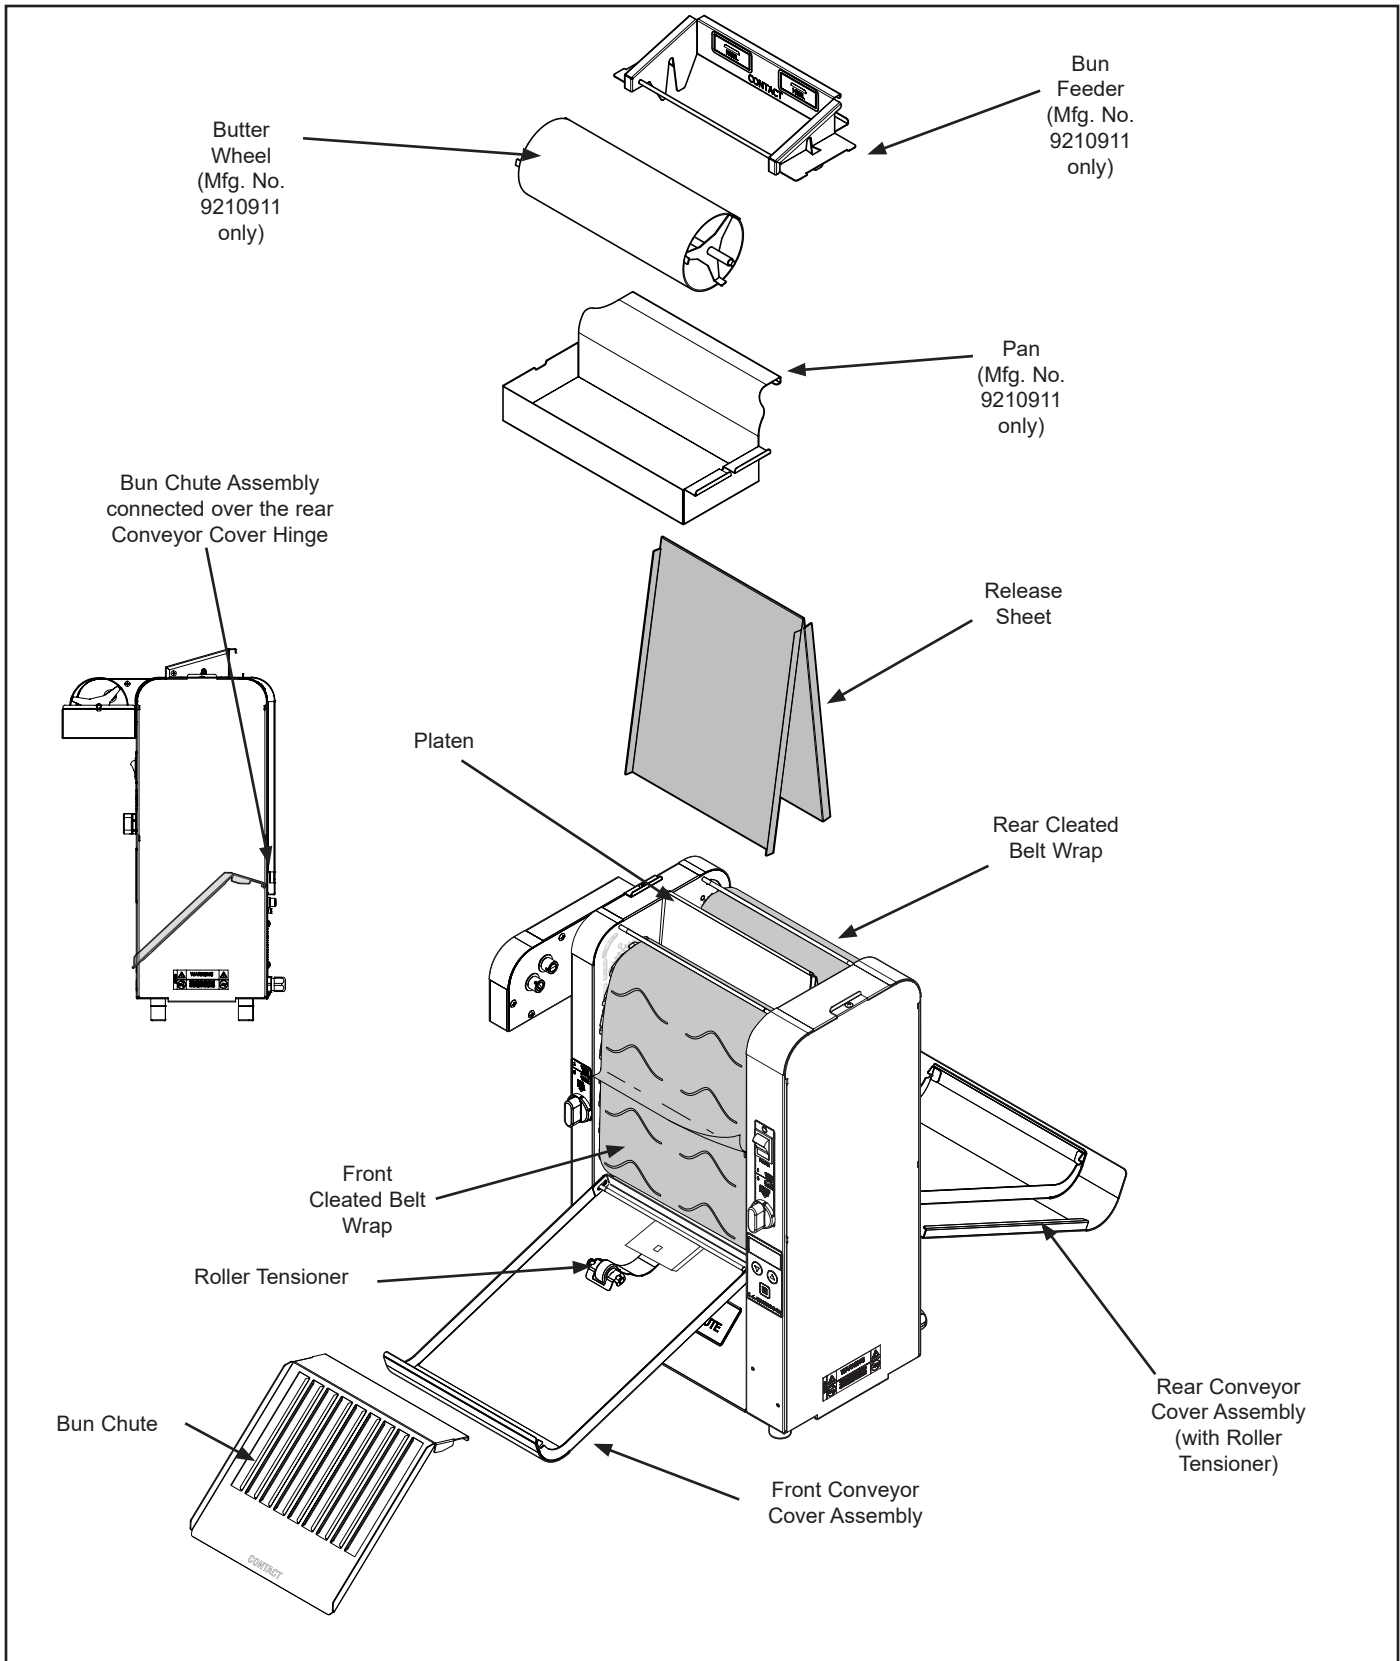

Figure 2. Components
2. Open the included large box. It should contain the following (See Figure 2):
NOTE: The factory has pre-installed a Release Sheet over the Platen (Figure 2). Verify that it is properly in place before proceeding.
2. Install the Pan over the front edge of the Heat Shield and place the Butter Roller in Pan and engage into gear case (Figure 2).
IMPORTANT: Make sure Heat Shield assembly is activating the Conveyor Interlock Switch (Figure 2). The conveyors will not rotate unless the Heat Shield is in place and Conveyor Interlock Switch is activated.